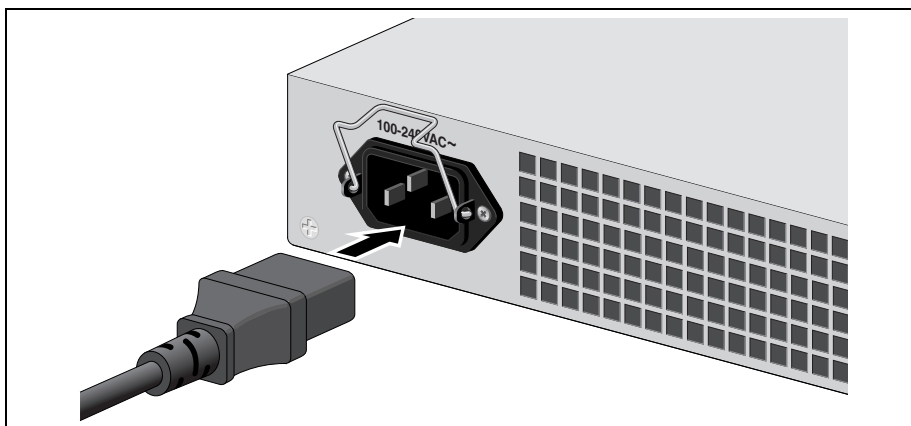

Figure 20. Connecting the AC Power Cord
2. Plug the power cord into the AC power connector on the back panel of the unit (see Figure 20).